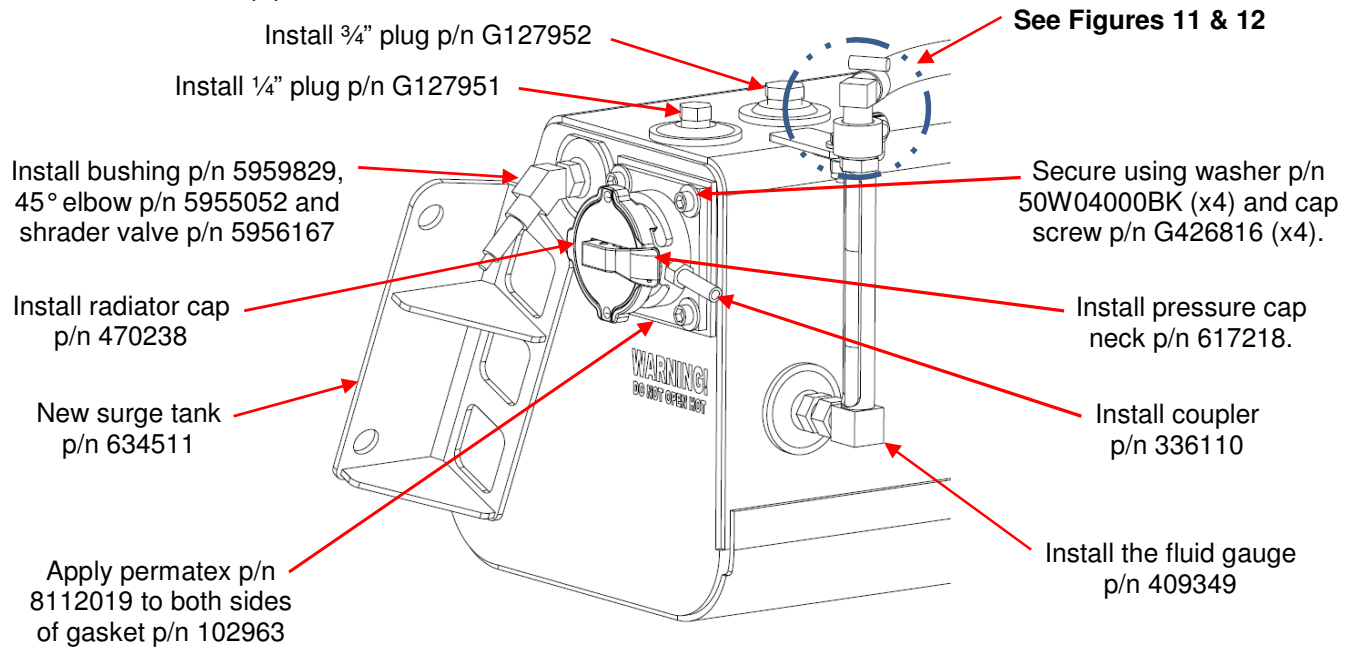

Figure 10: Partial Surge Tank Assembly
- e. Install 1/4" plug p/n G127951 and 3/4" plug p/n G127952 into corresponding ports on the top of the surge tank as per Step 19. See Figure 10.
- f. Install bushing p/n 5959829, 45° elbow p/n 5955052 and shrader valve p/n 5956167 into the side port of the surge tank as per Step 19. The shrader valve is to face down as shown in Figure 10.
- g. Install coolant level gauge p/n 409349 into the bottom front surge tank port as per Step 19. See Figure 10.
- h. Apply permatex p/n 8112019 to both sides of gasket p/n 102963 and adhere gasket to pressure cap neck p/n 617218. See Figure 10.
- i. Install the neck and gasket from Step14h on surge tank as per Figure 10 and secure using washer p/n 50W04000BK (x4) and cap screw p/n G426816 (x4). Torque screws to 75 in*lbs. See Figure 10.
- j. Install coupler p/n 336110 to the newly installed neck as per Step 19. See Figure 10 for location.